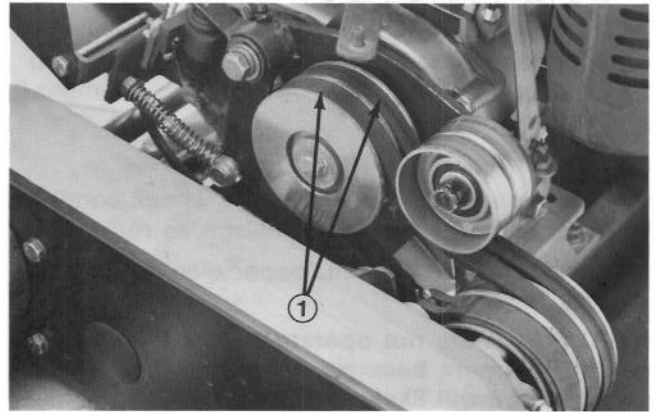

Figure 38
4. To adjust belt tension on primary V – belts (Fig. 38), first check adjustment of traction control. Refer to Adjusting Traction Control, page 16. If unable to attain the 3–5 lbs. force required in adjusting traction control, proceed to step 5.